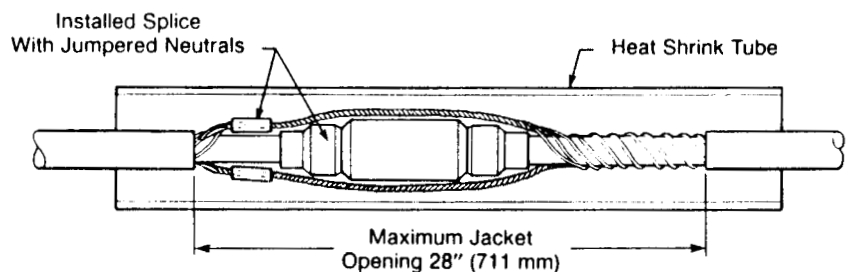

Figure 2
- d. Center jacketing sleeve over cable jacket opening. Figure 2.